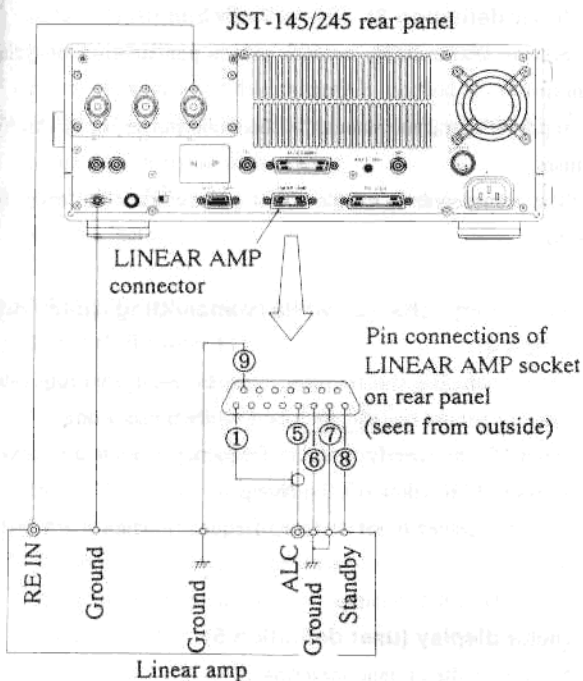

Figure 6.14 Connection of Linear Amp
Connect the optional CFQ-4794 control cable to the LINEAR AMP connector ⑦0 on the rear panel of the JST-145/245 to use JRC's JRL-2000 linear amp. See Figure 6.14 for how to connect a linear amp other than the JRL-2000F. Use a commercially-available 15-pin D-sub plug.